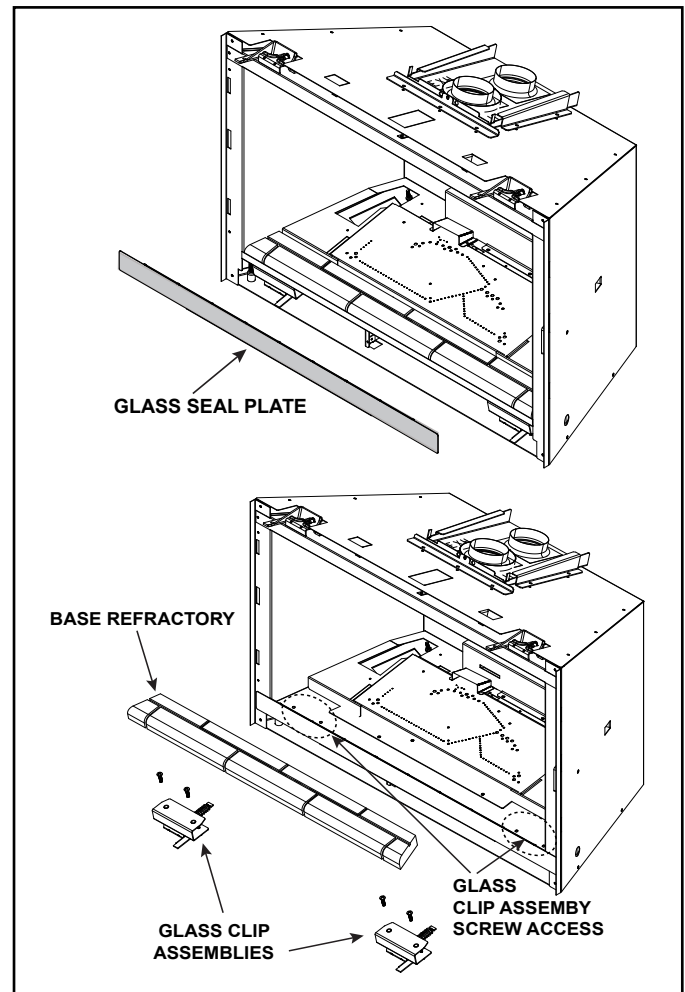

Figure 4.5 Glass Clip Removal
- For easier access, glass clip assemblies can be removed. See Figure 4.5. Be careful when handling base refractory.